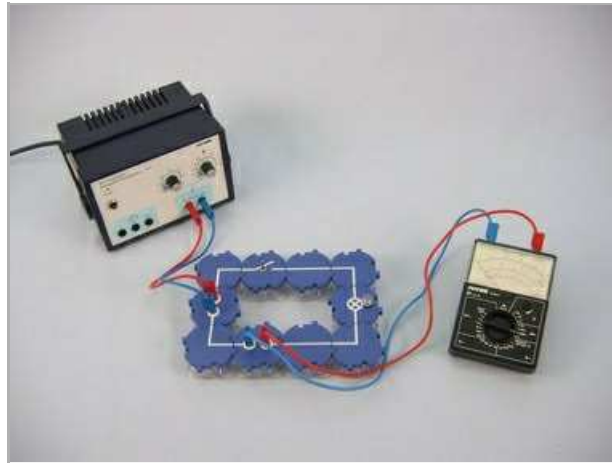

Fig. 4
- Now connect the amperemeter and the power supply to your circuit as you can see in Fig. 4.